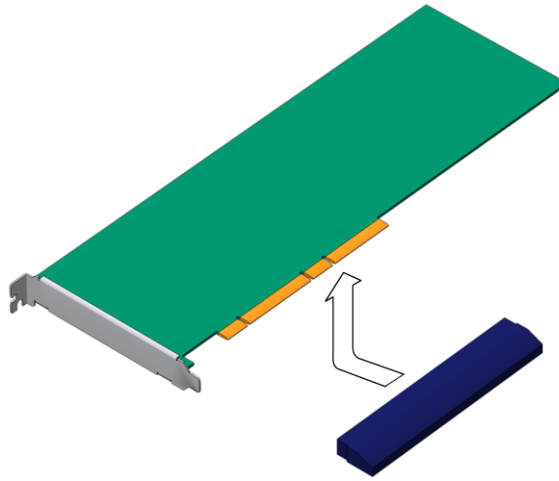

FIGURE 4-2 Lifting the PCI-X Card From the PCI Tray
3. Slide the PCI-X card to the left and lift it out of the PCI tray (FIGURE 4-2).